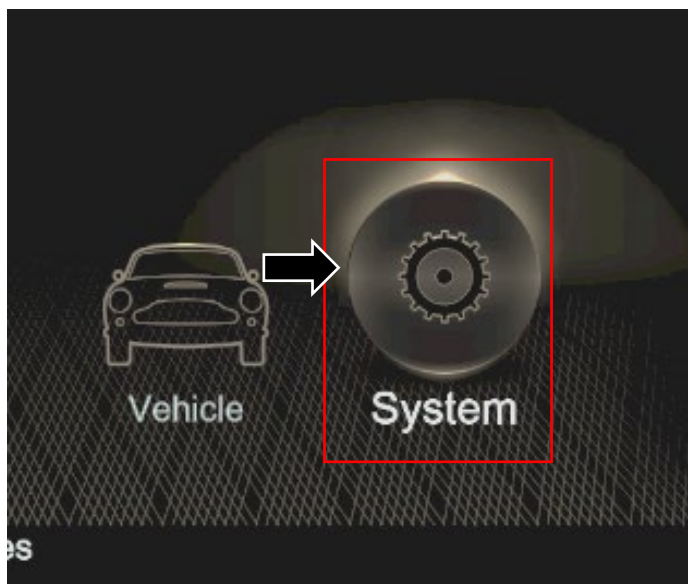

Figure 8
16. In the Head Unit home screen, go to the 'System' icon, but do not select. (refer to Figure 8).